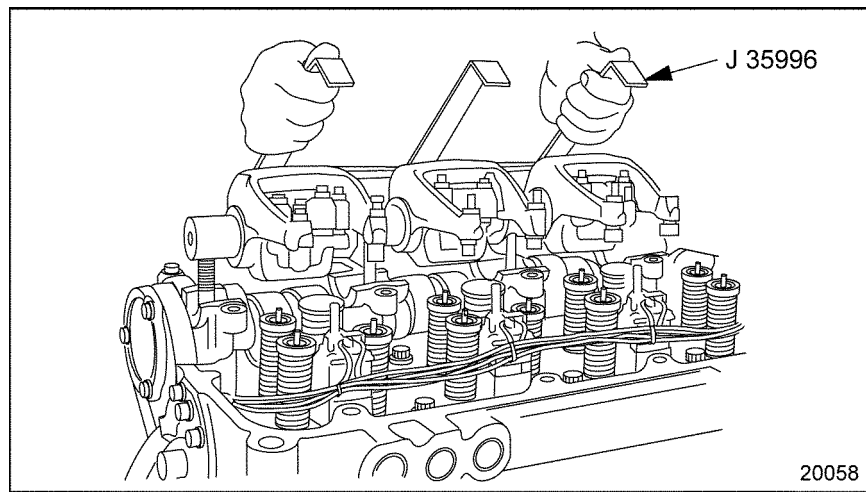

Figure 12-2 Rocker Arm/Shaft Assembly Removal/Installation
5. Remove the three rocker shaft mounting bolts and nut from the front rocker shaft assembly. Using rocker arm lifter J-35996-A, see Figure 12-2, lift the assembly straight up and off of the head and place in a clean area on the bench.